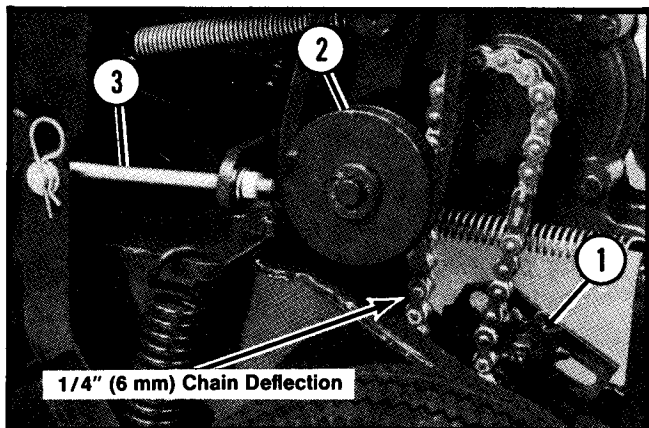

Figure 24. Hopper Pulley Adjustment Rod
3. If the chain tension is correct, lower the reel and loosen the nut on the hopper pulley adjustment rod (See Figure 24) until the sprocket fully engages the chain.